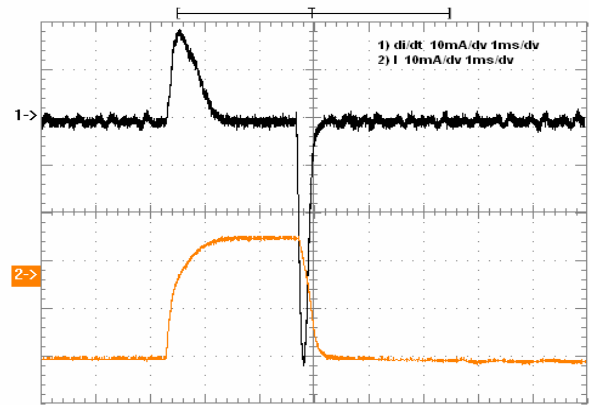
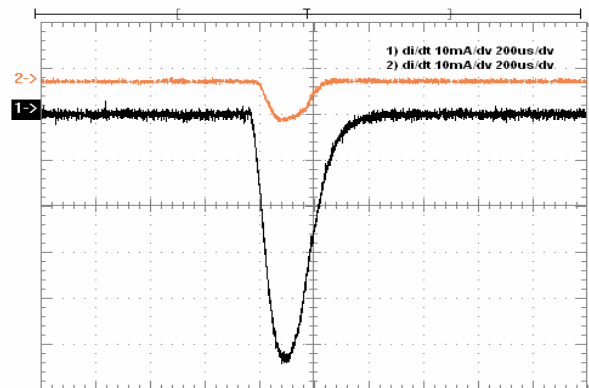

Fig. 4. Common LED indicator di/dt (1st line) and voltage waveform (2nd one).
Fig. 5. Common LED indicator di/dt waveform without (1st line) and with overcurrent protection (2nd one).
– fig. 4. It is necessary to minimize it by L1 element. Application results are shown of figure 5.